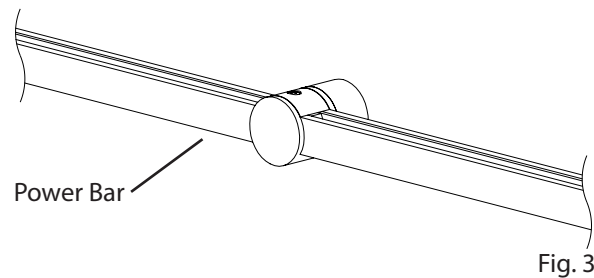

Fig. 3
3. Insert **Power Bar** into **Support**. Reattach **Support Cap** with **Flat Head Screw** (Fig. 3). **Note:** Wall Mount Support (1XB02WL00x) is to be used in conjunction with Wall Mount Standard Power Feed (1XA08WL01x) or Remote (1XA08WL02x).